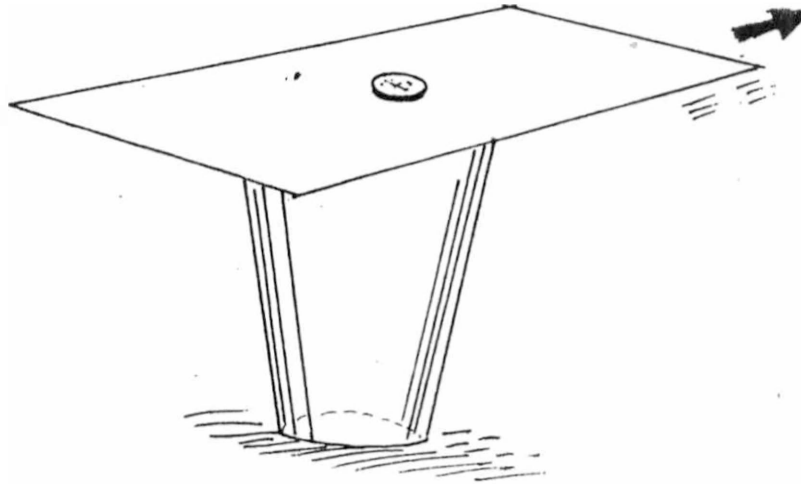

Fig.2.3
1. Take a tumbler and place a piece of card board on it as shown in Fig.2.3.